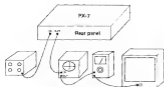

Fig. 10-2 Connections
1. Connect the measuring equipment outlined in Fig. 10-2 to PX-7.